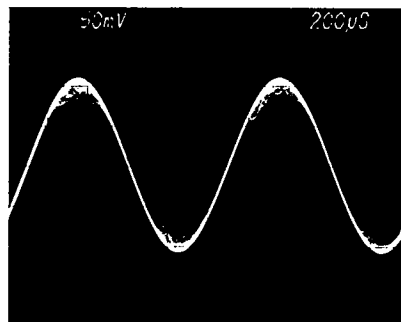

Figure 12-2. Tuner output going to distortion analyzer.
8. Reduce the FM signal generator RF output level until the noise plus distortion increases to 3% THD or -30dB down ($0\text{dB} = \text{Set Level} = 100\% \text{ THD}$). Then on Section 3 PCB, adjust L204, L206, L207 and R224 MIXER BIAS ADJUST for maximum signal and minimum noise. See figures 12-2 & 12-3.